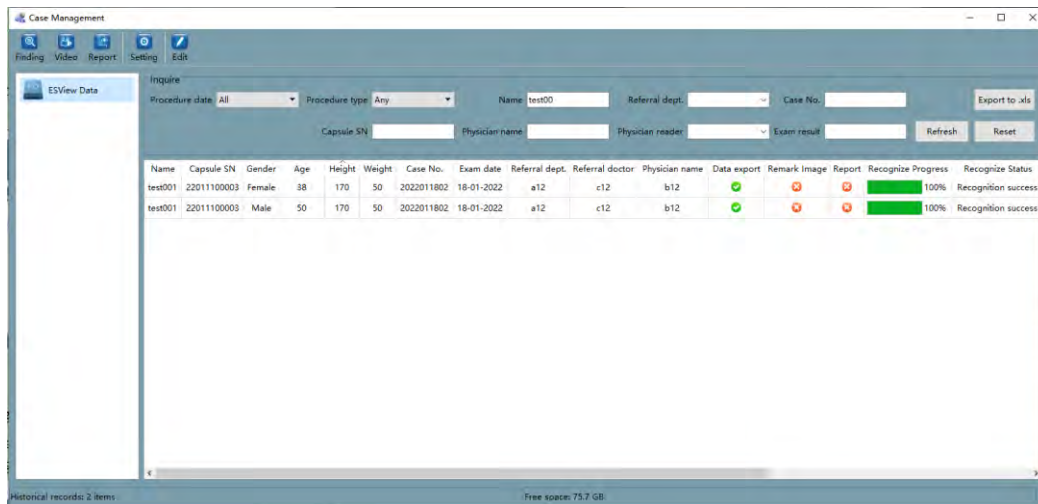

Figure 4-44: Recognize Progress
2) Use "Export and convert data into video file" or "Convert existing RAW file into video files" to export data. After exporting, check "Recognize Progress" as 100% and "Recognize Status" as "Recognition success" in the Case Management case list, as shown in Figure 4-44.